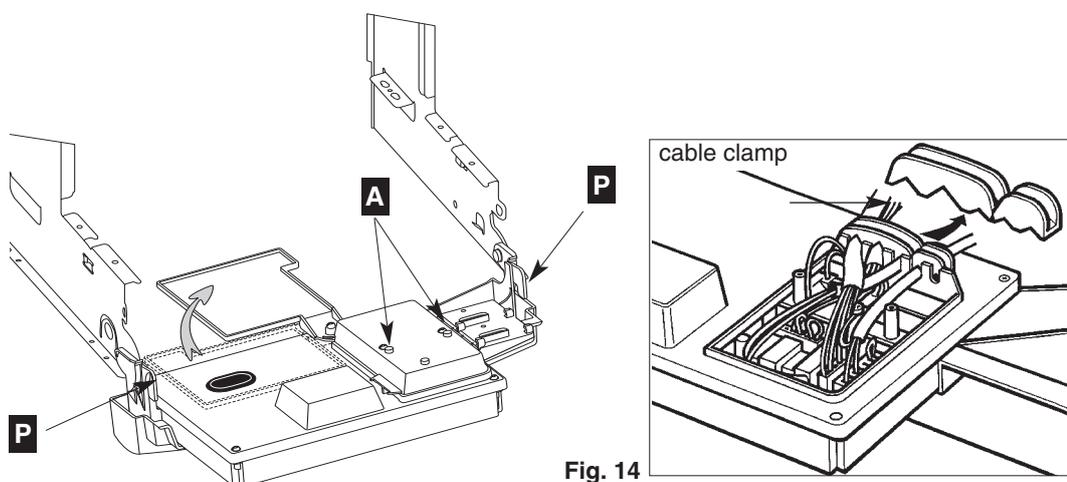

Fig. 14
- Hinge down the electrical box to access to the valves connections. Push in the tabs (P Fig 14) on either side of the boiler and pivot the box forward.
Hinge down the electrical box to gain access to the electrical connections. Push in the tabs (P fig. 14) on either side of the boiler and pivot the box forward.
Undo the two retaining screws, remove cover and remove cable clamp. (A fig. 14)